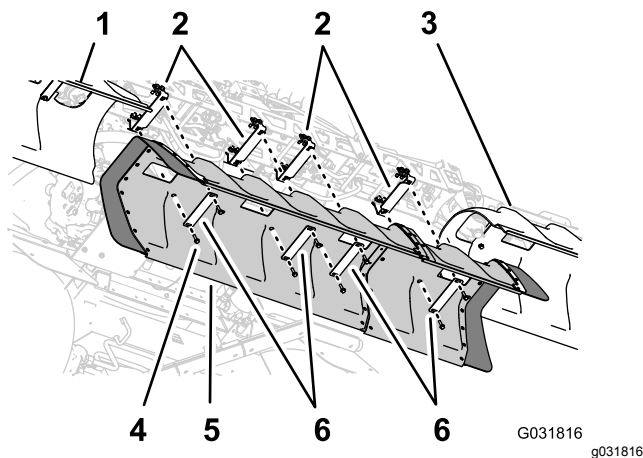

Figure 151
1. Align the holes in the center section cover with the holes in the support brackets for the center-section cover (Figure 151).
2. Align the holes in 2 of the cover straps that you removed in step 1 of 6 Removing the Center-Section Cover (11-nozzle) of the Optional Covered-Boom Kit (page 19) with the hose in the cover and 2 of the support brackets (Figure 151).
4. Align the holes in the 2 cover straps (Toro Part No. 120-0629) with the 4 remaining holes in the cover and 4 remaining holes in the support brackets (Figure 151).
5. Assemble the cover straps and cover to the support brackets (Figure 151) with the 4 flange-head bolts (5/16 x 1-1/4 inches—Toro Part No. 323-36).